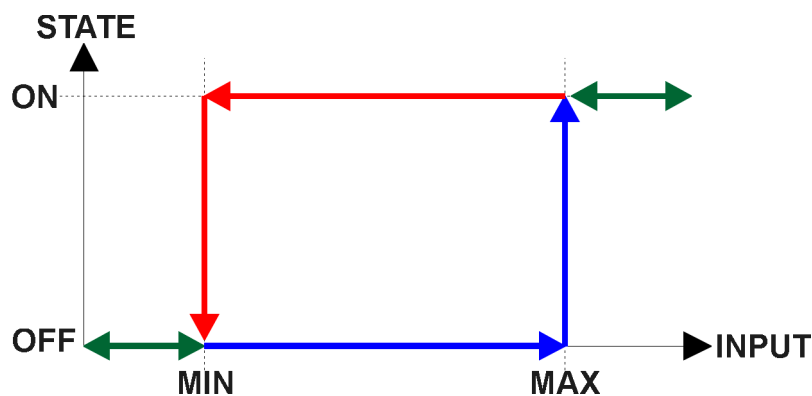

Figure 5 – Analog Input Read as Digital
There is another type of ‘digital’ input that can be selected when 6112h is set to 20 = Analog On/Off. However, in this case, the input is still configured as an analog input, and therefore the objects from the Analog Input (AI) block are applied instead of those discussed above. Here, objects 2020h, 2030h and 6030h are ignored, and 6020h is written as per the logic shown in Figure 5. In this case, the MIN parameter is set by object 7120h **AI Scaling 1 FV**, and the MAX is set by 7122h **AI Scaling 2 FV**.